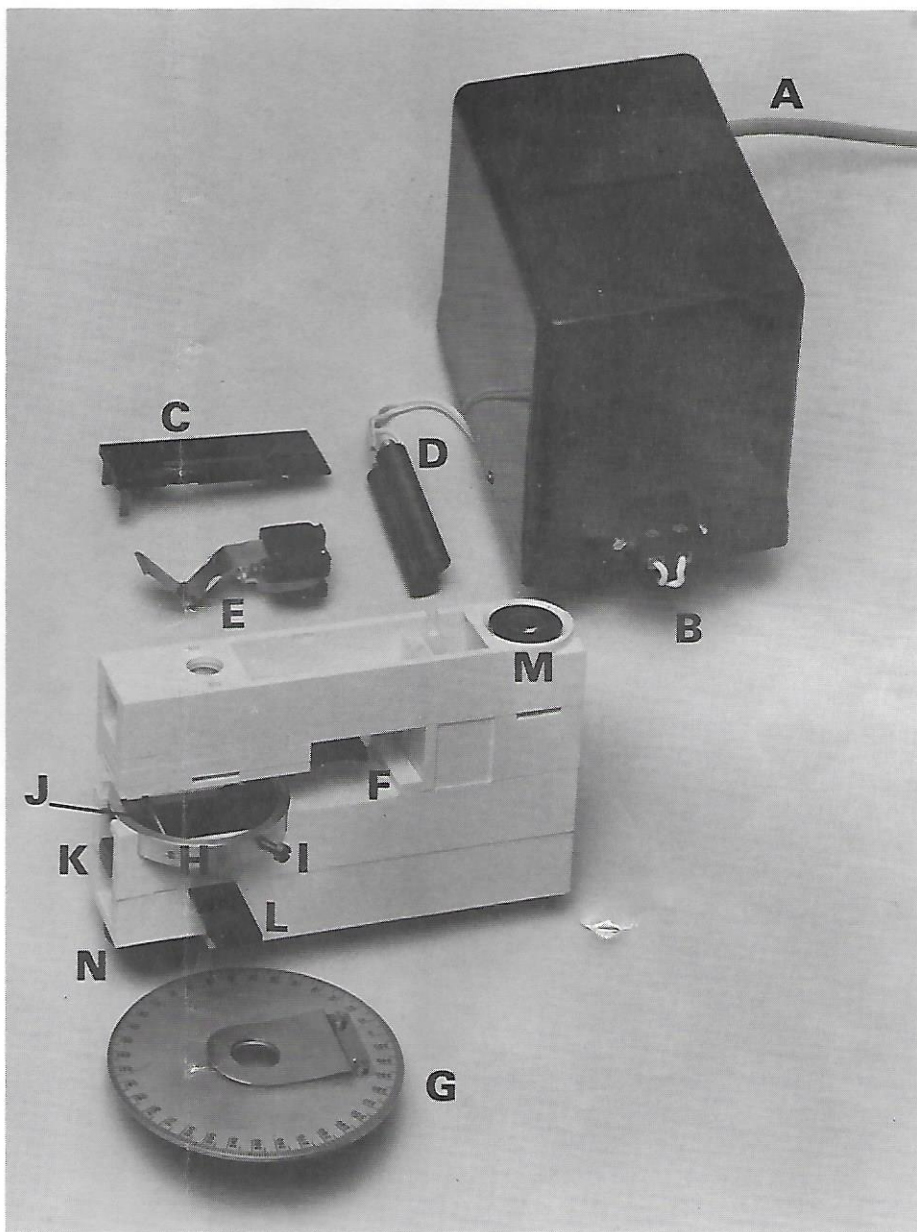

Figure 1
The microscope together with its stage (G) and polarizer (L) (Fig. 1).
A transformer together with the transformer leads—mains lead (A) and output lead (B) (Fig. 1).
(i) Unscrew the two screws (I) (Fig. 1) till they no longer protrude inside the sleeve. Use a small electrical screwdriver, and keep it handy as you will need to adjust these screws several times. Don't use the kitchen knife!
The objectives are mounted on a push-pull slide (K) (Fig. 1) beneath the rotating stage. The end of this slide protrudes slightly from the *front* of the microscope body. There are two objectives: the low-power objective (x8), which you will be using most often, is in position when the slide is pushed right in, flush with the microscope body. The high-power objective (x20) can be brought into the system by pulling the objective slide out to its maximum.
This is basically a bell transformer, designed to reduce 220–250 volts A.C. mains supply to 2½ volts. The mains lead (A) is permanently attached to the transformer (Fig. 1). The output lead (B), on the opposite side from the mains lead (A), is connected to the microscope illumination system.
The *off* position of the light switch is towards the eyepiece (M) (Fig. 1), opposite the words 'Direct view' on the black plastic strip. The *on* position is opposite the words 'Electric lighting'. Ignore the intermediate position 'External lighting'.